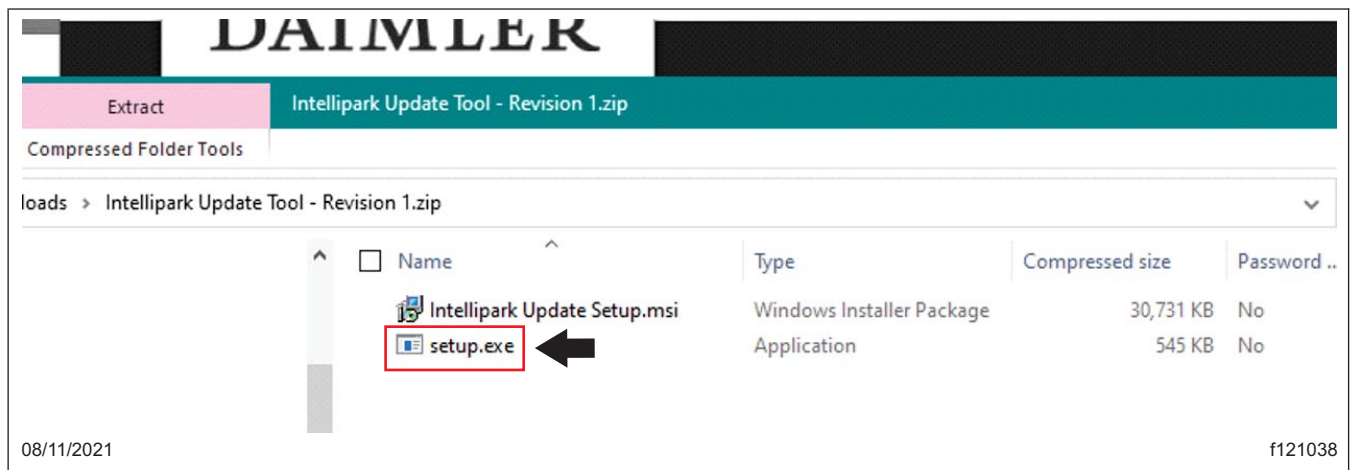

Fig. 4, Bendix Intellipark Update Setup File
6. In the extracted folder, run the 'Setup.exe.' file to install the Bendix Intellipark Update Tool. See Fig. 4.